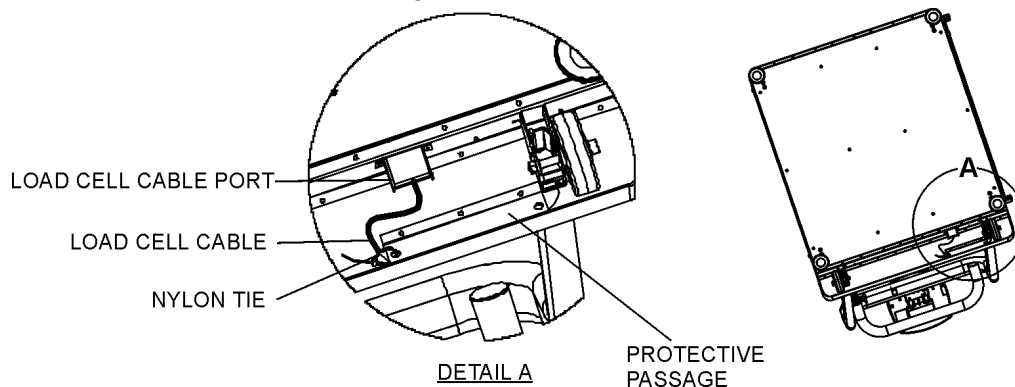

Figure 3
- Pass the load cell cable through the protective passage close to wheel and out through the nylon tie loop. Tighten the nylon tie. Plug the cable connector into the load cell cable port on the rear of the platform. (see Figure 3)